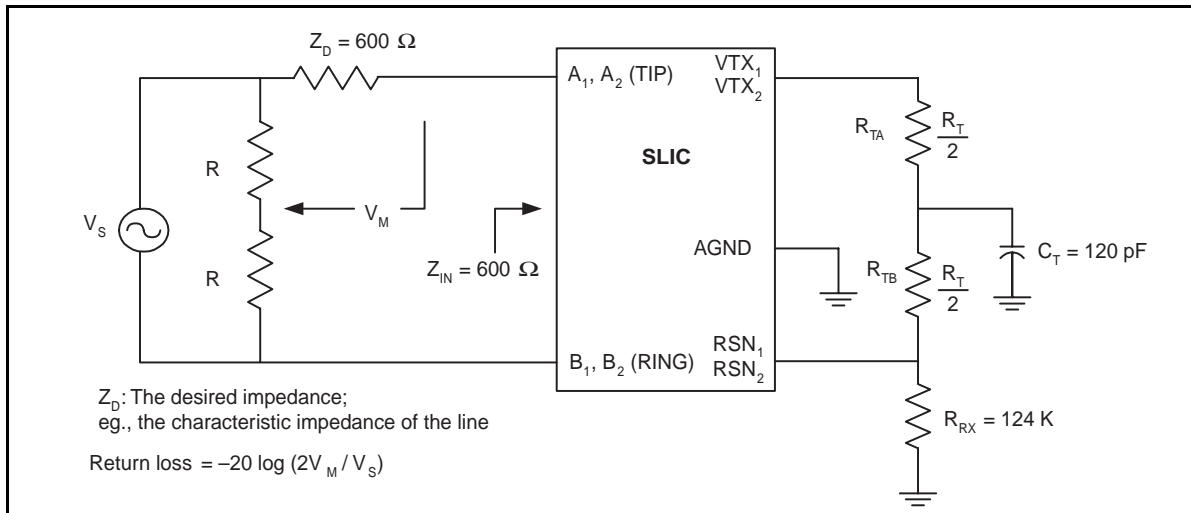

Figure 6 - Two-Wire Return Loss Test Circuit
- Group delay can be greatly reduced by using a Z_T network such as that shown in Figure 6. The network reduces the group delay to less than $2 \mu s$ and increases 2WRL. The effect of group delay on linecard performance also may be compensated by synthesizing complex impedance with the QLSLAC™ device.